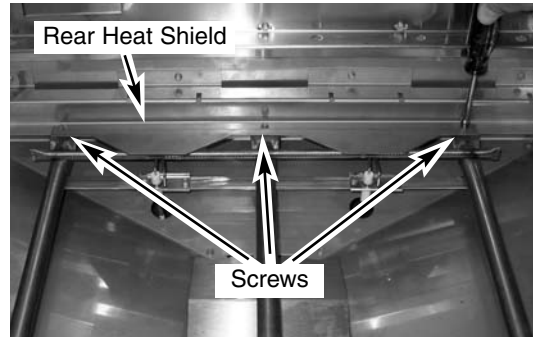

Fig 2
2. Remove the screws holding the rear heat shield in place. Lift out rear heat shield and set aside (Fig. 2).
23. Reattach the igniters and their heat shields (removed in Steps 2, 3, and 4) to the burners (Fig. 2, 3, and 4).
24. Reattach the rear heat shields before attaching the front heat shield to be sure the burners remain over the valves (Fig. 2).